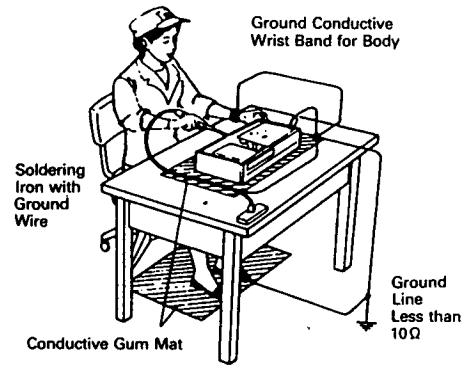

Figure 8
1. Remove the CD mechanism assembly by referring to the "exploded view" (See Figure 8).